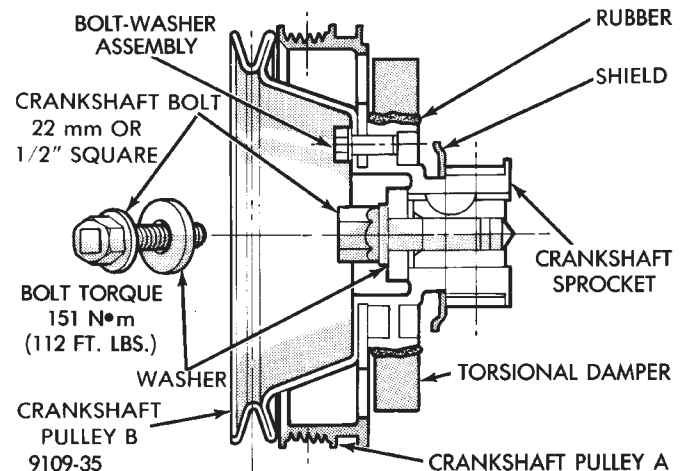
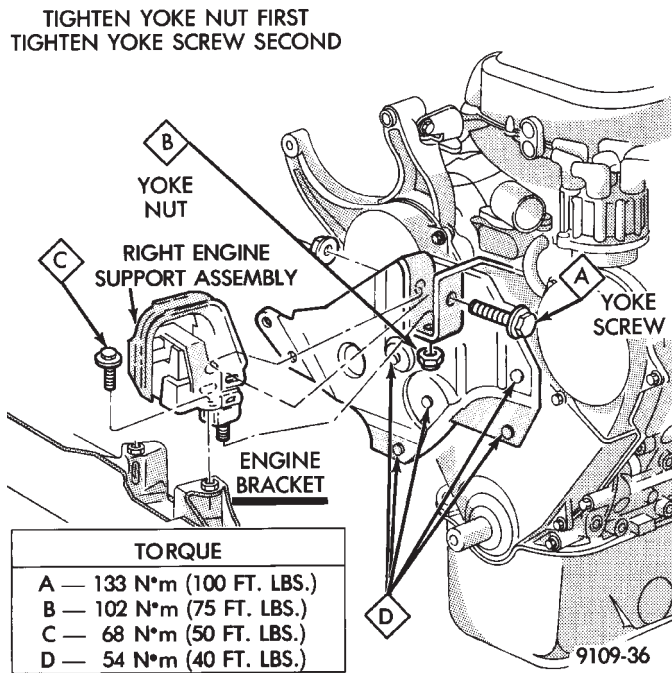

Fig. 9 Crankshaft Drive Pulleys
Fig. 10 Right Engine Mount and Engine Mount Bracket
- (7) Remove crankshaft drive pulleys and torsional damper (Fig. 9).
- (8) Lower vehicle and place a jack under engine.
- (9) Separate engine mount insulator from engine mount bracket (Fig. 10). Raise engine slightly.
- (10) Remove engine mount bracket (Fig. 10).
- (3) Remove crankshaft sprocket flange shield (Fig. 9).